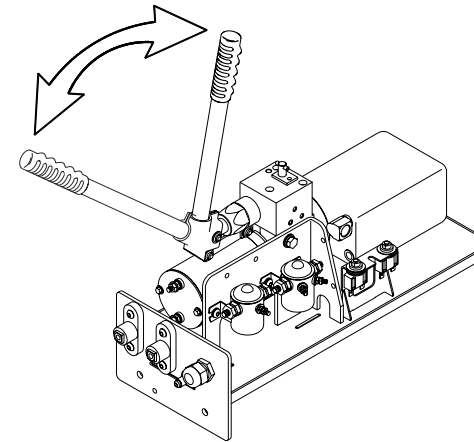

FIGURE 2-13: OPERATE PUMP TO RAISE PLATFORM
- 6) Refer to **Figure 2-13** on following page. Insert pump handle into the socket on the backup pump and operate pump to raise platform one to two inches above stow level.
- 10) Refer to **Figure 2-13**. Operate pump to raise platform to floor level.
- 14) Refer to **Figure 2-13**. Operate pump to raise platform to a height about six inches above stow level.